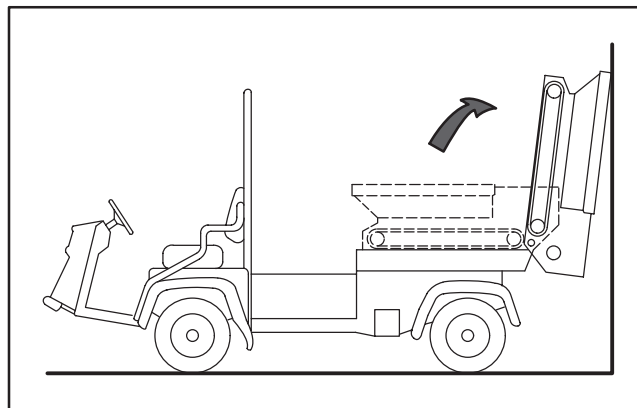

Figure 28
- 5. Pivot hopper rearward and lean against wall, ladder, etc. Do not allow hopper to rest against rear of machine as damage may result to brush or hydraulic couplers (Fig. 28).
Important Make sure hopper is pivoted beyond center and/or secured to wall or post to prevent it from accidentally falling on work area (Fig. 28).